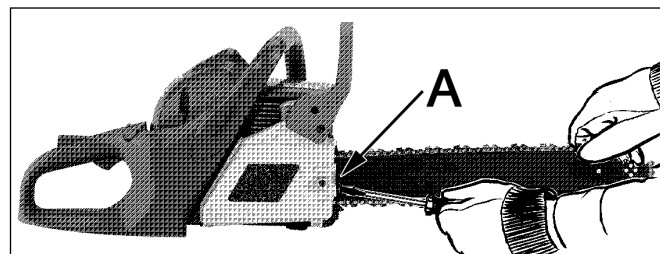

Fig. 5
1. Hold nose of guide bar up and turn adjustment screw (A) **CLOCKWISE** to increase chain tension. Turning screw **ANTICLOCKWISE** will decrease amount of tension on chain. Ensure the chain fits snugly all the way around the guide bar (Fig. 5).